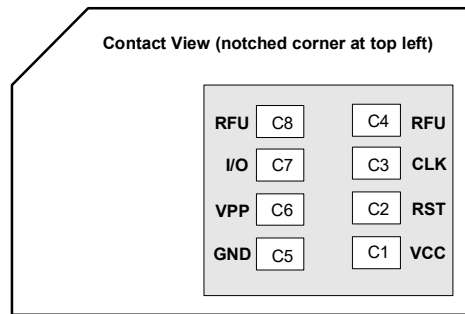

Figure 2-6: SIM Card Contacts (Contact View)
a. See Figure 2-6 on page 31 for SIM card contacts.